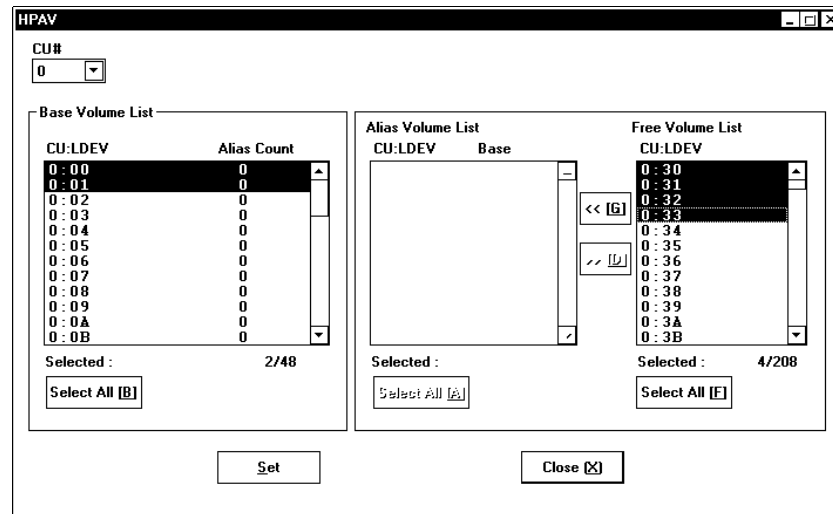

Fig. 13.3 HPAV main panel
3. From the Base Volume List box, select one or more LDEVs to which you want to assign aliases (see Fig. 13.3).
4. From the Free Volume List box, select one or more LDEVs (see Fig. 13.3).